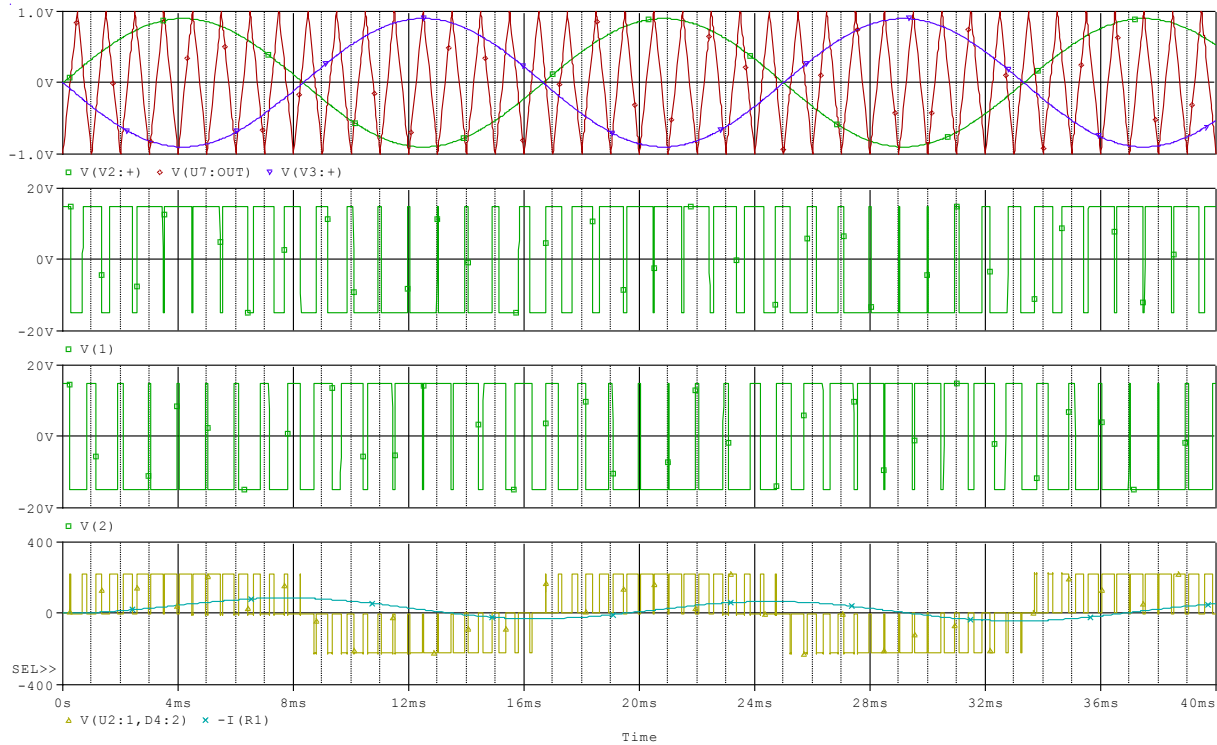

Figure 8
4. Plot reference voltages, carrier wave, gate signals, load voltage and current. Reproduce Figure 8.